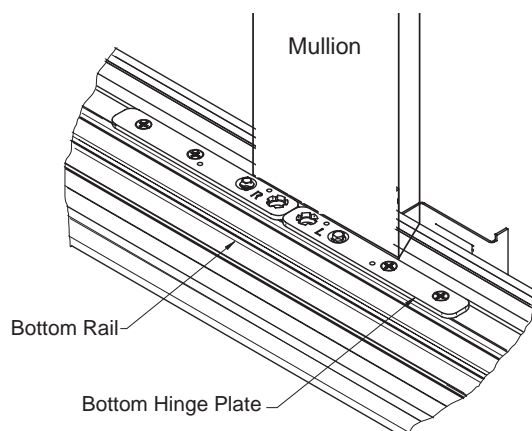

Figure 12-3
B. Angle top of mullion toward inside of case, and engage bottom of mullion into the bottom rail extrusion. The mullion should be centered between the torsion rod holes as shown in Fig. 12-2 and Fig. 12-3.